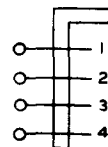

Fig. 5—234 and 235 Plug
2.09 **234 and 235:** The 234 and 235 plugs (Fig. 5) are intended for use in making connections with terminal strips on intermediate distributing frames and are arranged to clamp on the punchings of the terminal strips by means of a sliding arm.